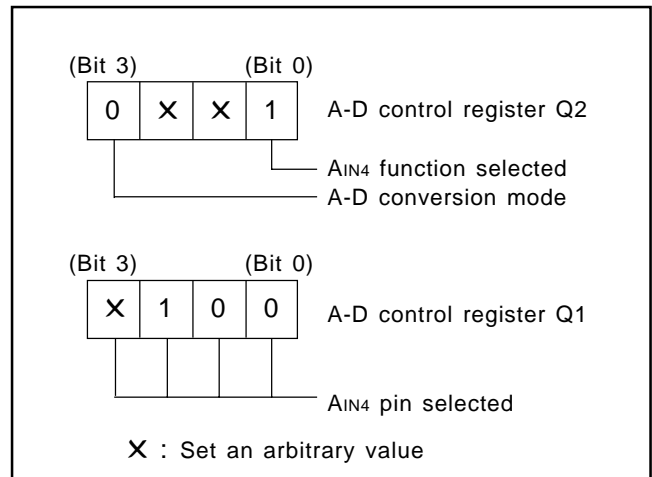

Fig. 28 Setting registers
- ① After selecting the AIN4 pin function with the bit 0 of the register Q2, select AIN4 pin and A-D conversion mode with the register Q1 (refer to Figure 28).
- ② Execute the ADST instruction and start A-D conversion.
- ③ Examine the state of ADF flag with the SNZAD instruction to determine the end of A-D conversion.
- ④ Transfer the low-order 2 bits of converted data to the high-order 2 bits of register A (TALA instruction).
- ⑤ Transfer the contents of register A to M (Z, X, Y) = (0, 0, 2).
- ⑥ Transfer the high-order 8 bits of converted data to registers A and B (TABAD instruction).
- ⑦ Transfer the contents of register A to M (Z, X, Y) = (0, 0, 1).
- ⑧ Transfer the contents of register B to register A, and then, store into M(Z, X, Y) = (0, 0, 0).